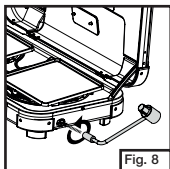

Fig. 8
- Screw regulator into stove hand tight. (Fig. 8)